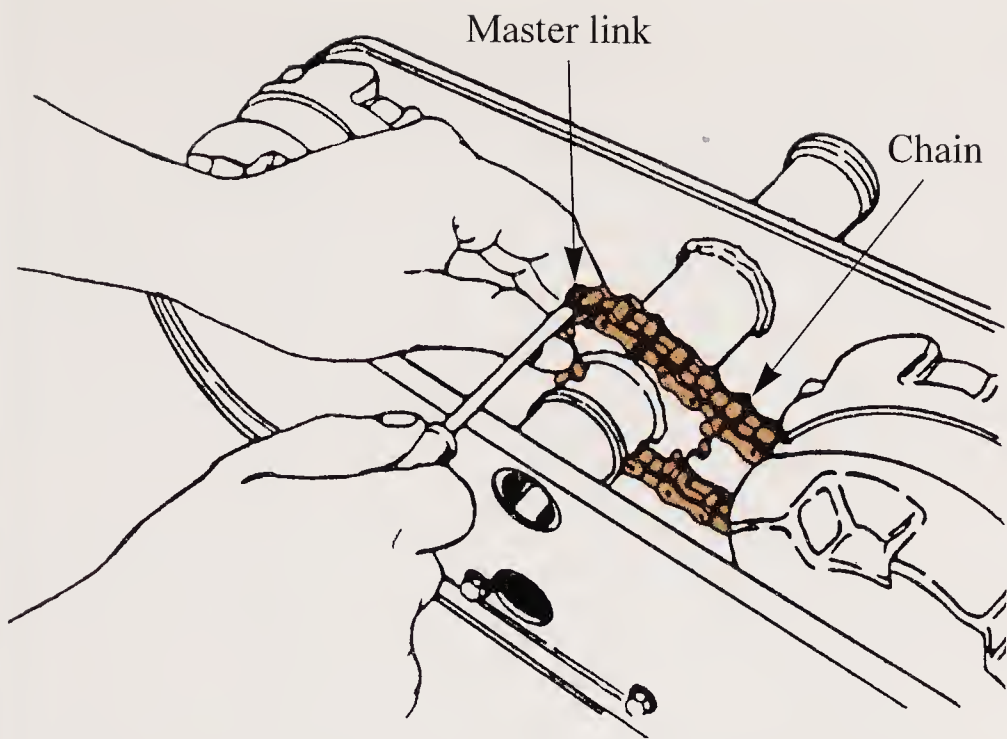
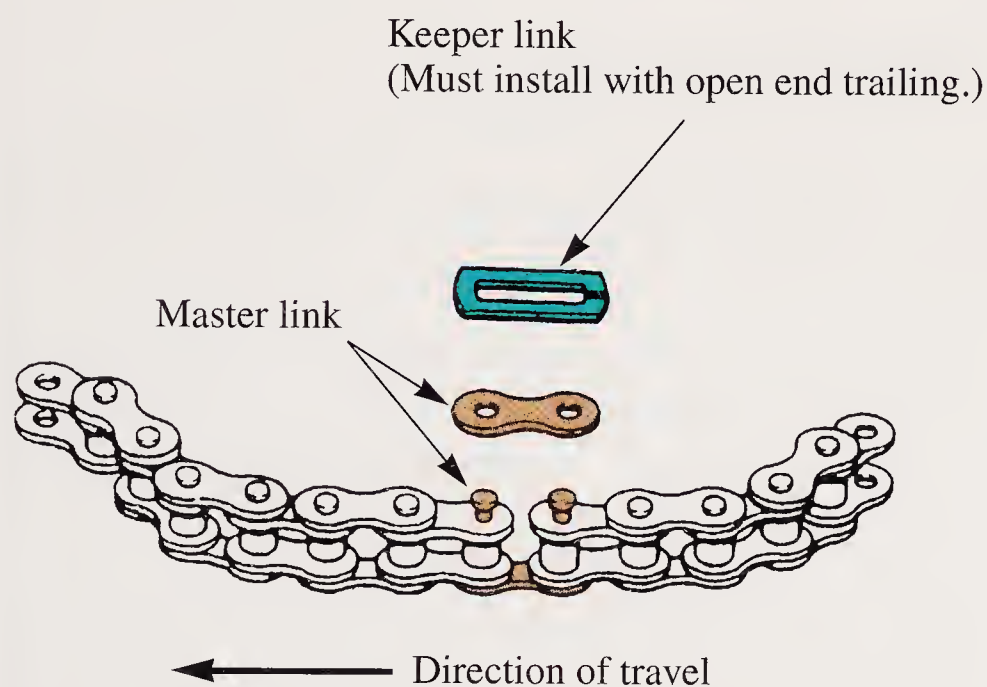

Figure 20-26. Removing drive chain by disconnecting master link with screwdriver. (MTD Products, Inc.)
Figure 20-27. Details of roller chain and master link with keeper. (Simplicity Manufacturing Co.)
4. Remove the chain by disconnecting the master link. See **Figure 20-26**. A master link and chain assembly is shown in **Figure 20-27**. The keeper is pried open with a screw driver and removed so the link can be removed. The open end of the keeper should trail the direction of rotation of the chain. It is best to replace the keeper on the outer side of the chain so it can be removed more easily.